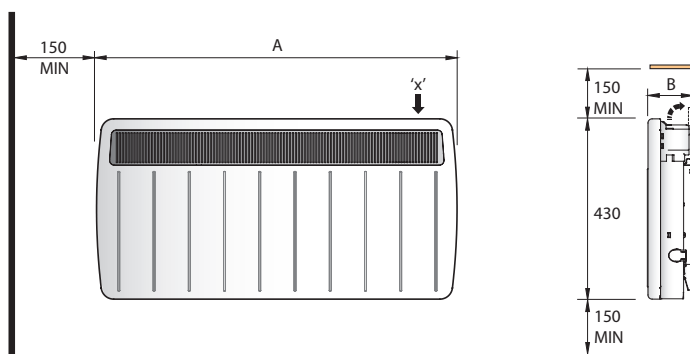
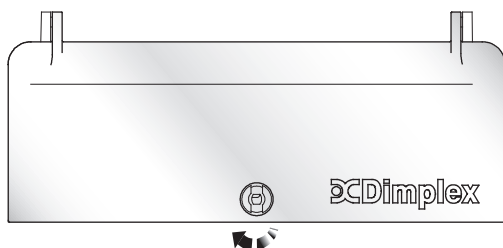

Fig. 1
Fig. 3
**IMPORTANT** – The wall brackets supplied with the appliance must be used. The heater should be positioned observing the minimum clearances stated around the heater - see Fig. 1.
The controls cover (see 'x' in Fig. 1) on your heater has a latch which may be locked shut if desired using a small bladed screwdriver - see Fig. 3.